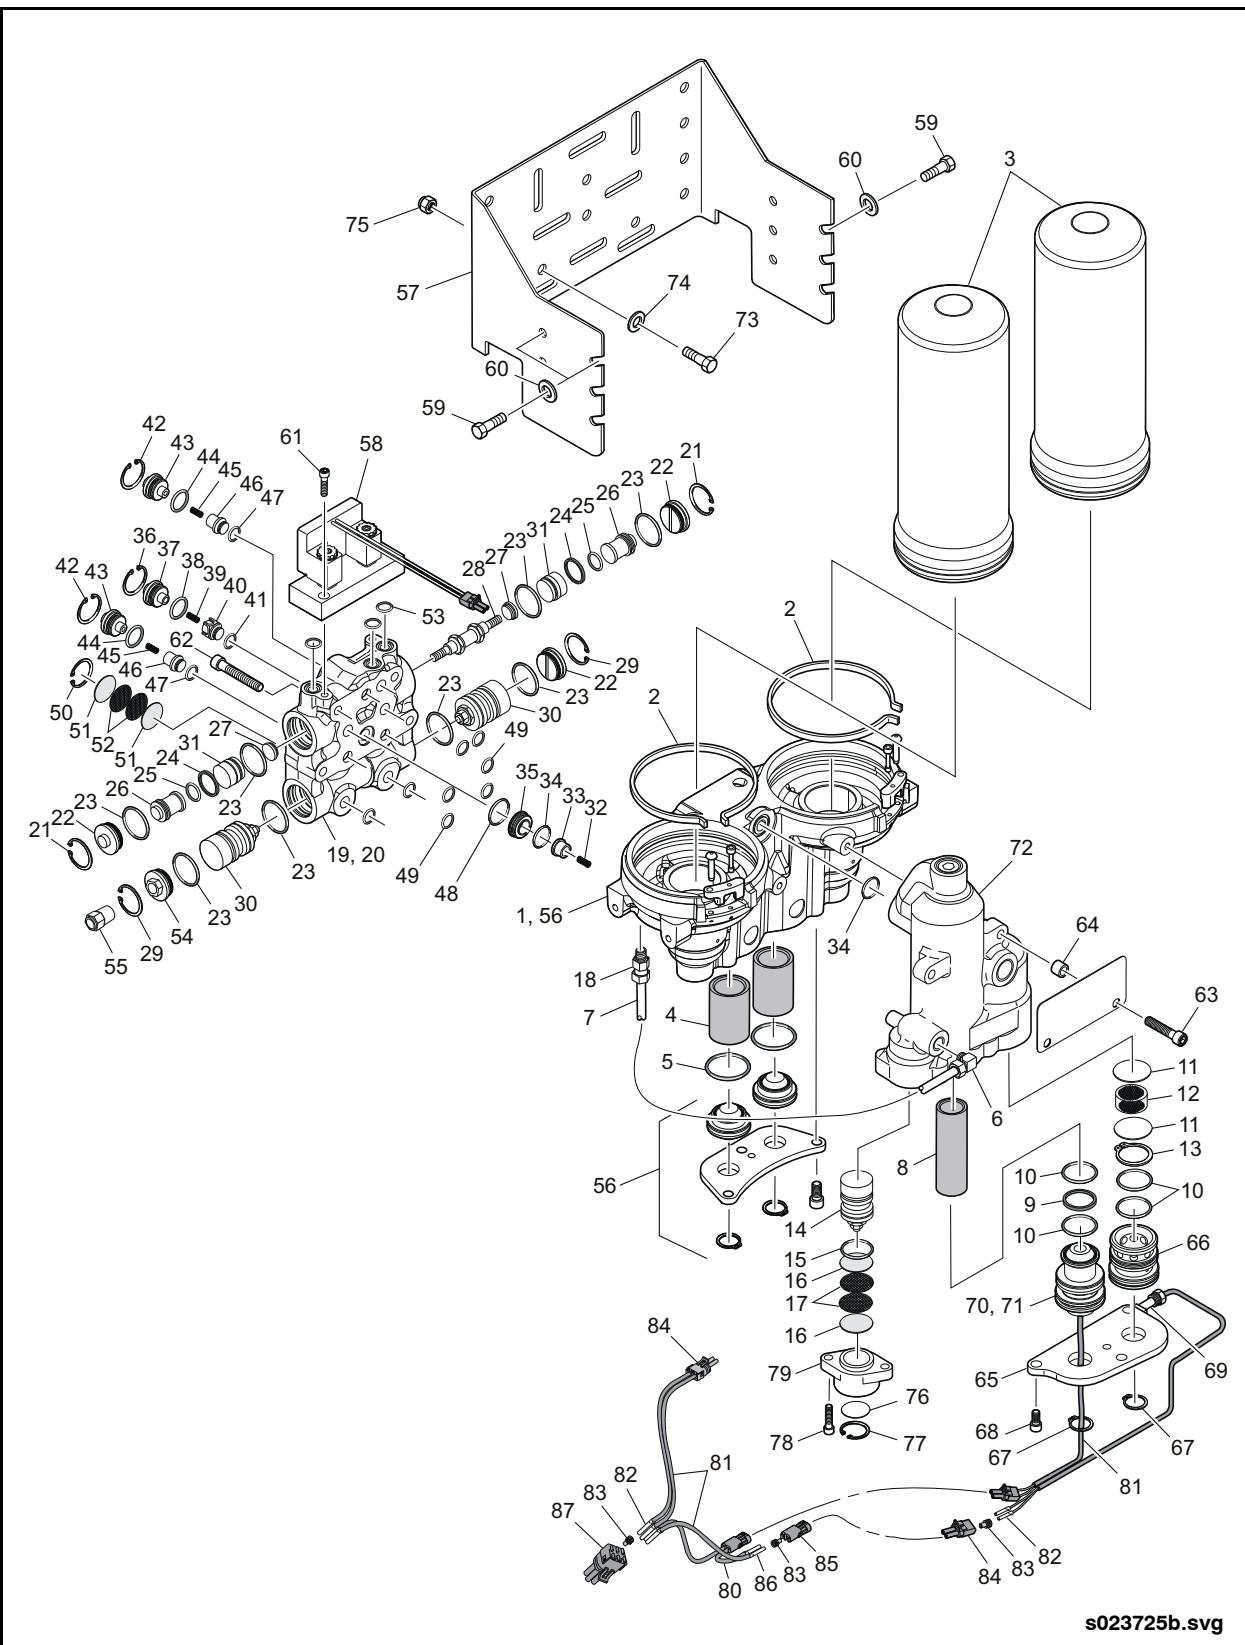

Fig. 8-8: Air Dryer Assembly
- a. Release the safety retainer by removing the screw with a 5/32" Allen wrench. Swing the safety retainer outward to expose the retaining ring. See "Fig. 8-8: Air Dryer Assembly" on page 38.